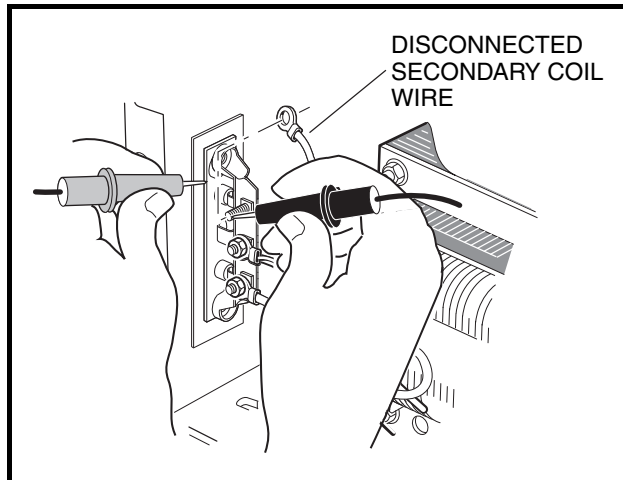

Figure 7-18 Diode Test
3. Disconnect one transformer secondary coil wire (orange or purple) from a diode terminal (**Figure 7-18, Page 7-21**).
4. Using a low voltage continuity tester or multimeter set to the diode test function, connect the red (+) test probe to the diode mounting plate and the black (–) test probe to a diode terminal and note the reading (**Figure 7-18, Page 7-21**).